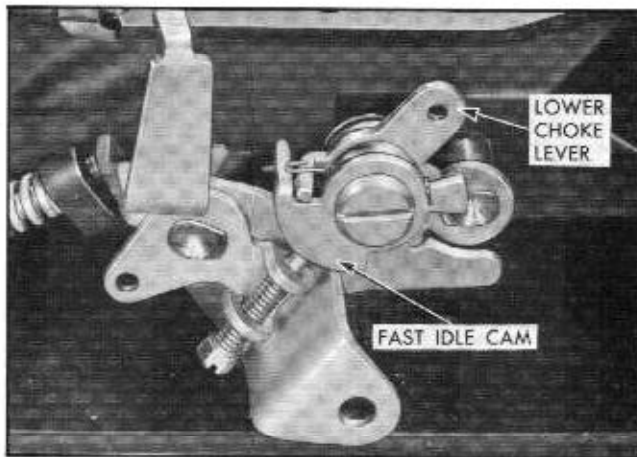

Fig. 6B-25 Fast Idle Cam and Secondary Lockout Assembly
c. Install fast idle cam assembly with screw (assembled in step a) in position on boss (Fig. 6B-25). Make sure cam and levers operate freely.